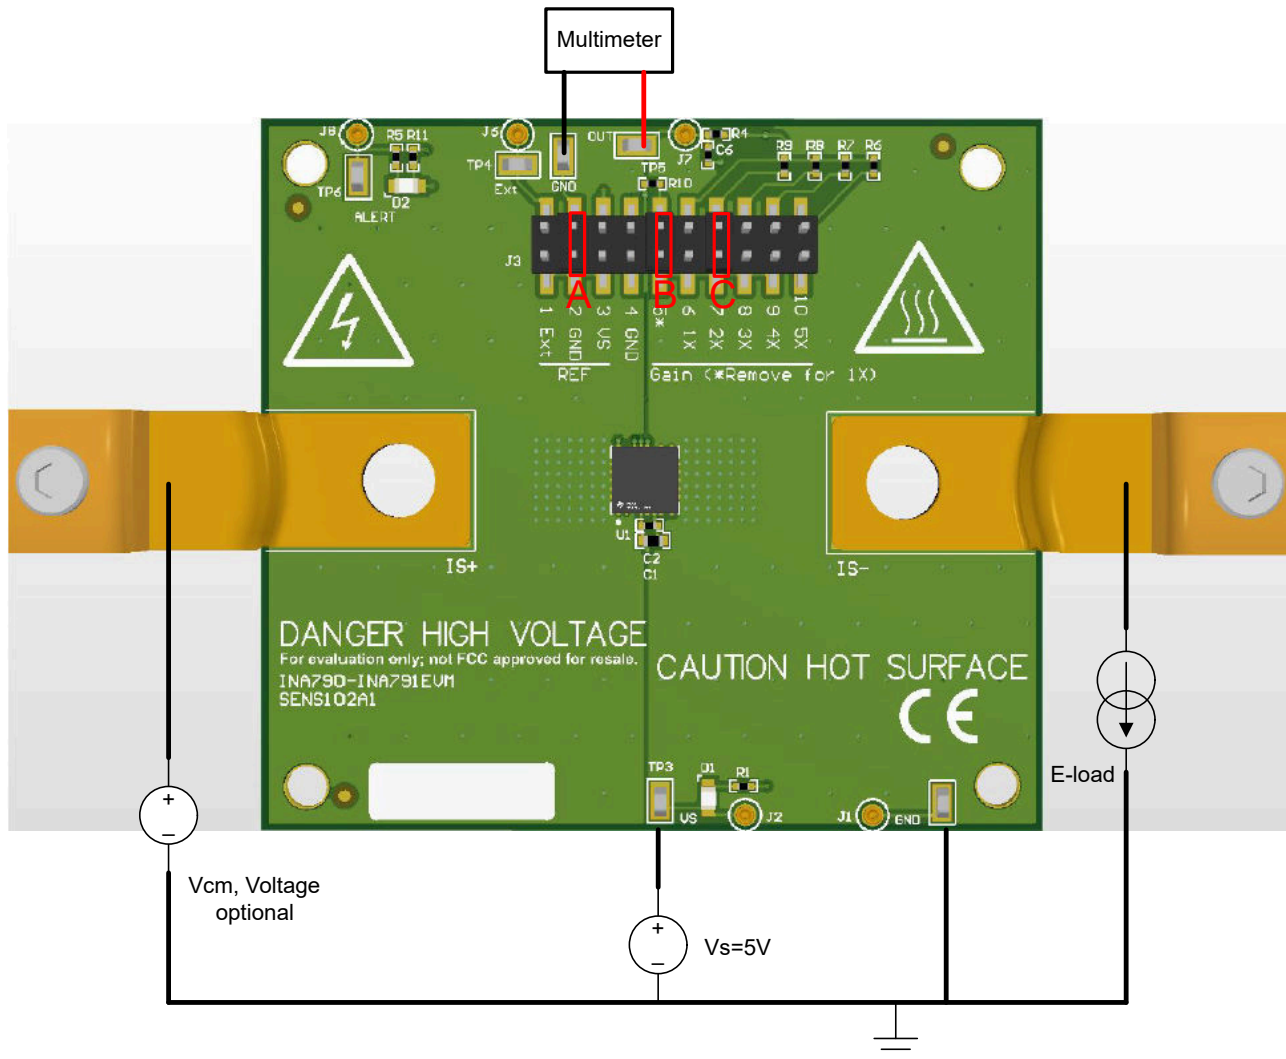

Figure 3-1. High-side Forward Current Setup
The INA790x features default gain 20mV/A. With an external adjustable gain resistor network, total gain (G) can range up to 400mV/A. Position 5 through 10 of header J3 allows the user to customize the adjustable gain, with two shorting jumpers B and C as shown in Figure 3-1. Configuration options provided by the EVM are shown in Table 2-1:
Positions 1 through 3 of header J3 allow the user to customize the REF pin voltage, V_{REF} , with shorting jumper A as shown in Figure 3-1. When using external reference, the voltage source can be connected through J6 or TP4. Configuration options provided by the EVM are shown in Table 2-2.
The following are instructions to set up and use the INA79xEVM. **Figure 3-1** shows an example of a simple, high-side setup. The high voltage source for load is noted as V_{CM} . The low voltage DUT supply is noted as V_S . The shorting jumpers A, B and C are installed such that V_{REF} equals to GND and the DUT gain is 40mV/A.